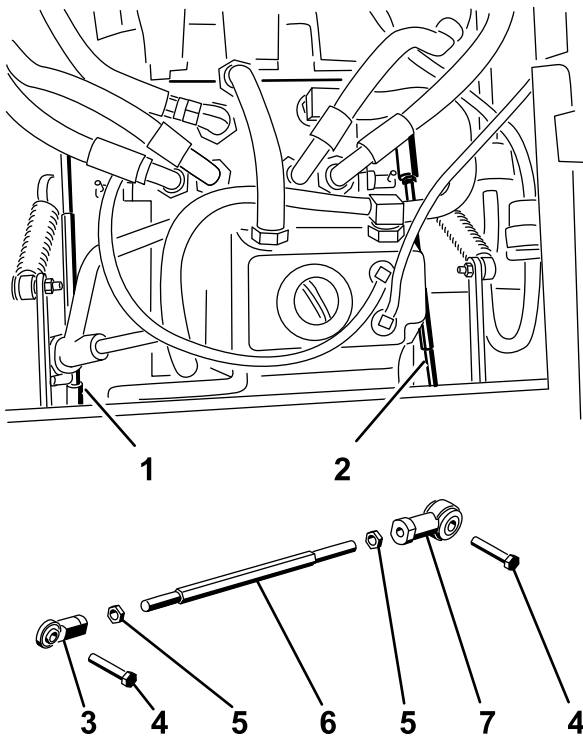

Figure 84
6. Adjust the pump rod length on one side by rotating the hex shaft, in the appropriate direction, until the corresponding wheel is still or slightly creeping in reverse (Figure 84).